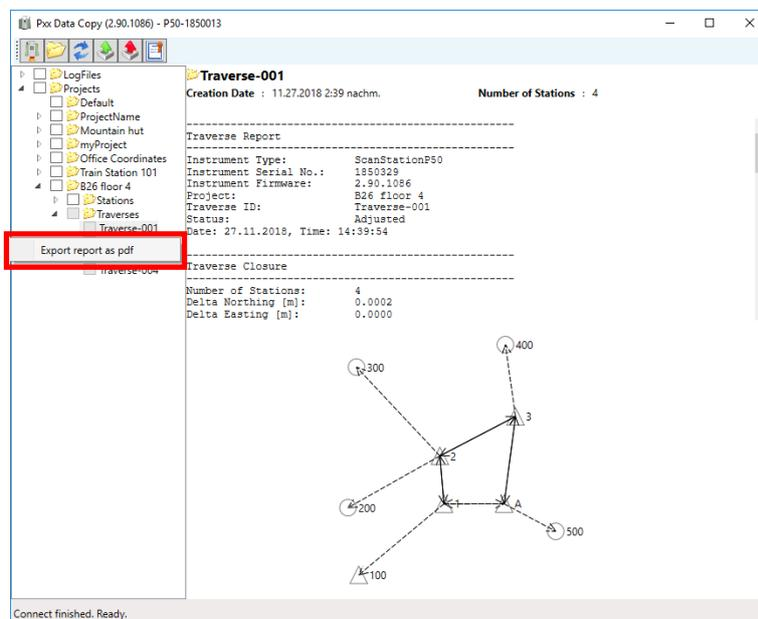

Figure 9: Export traverse report menu.
To export Traverse report right click on a traverse in *Content Frame (1)* and click *Export report as pdf* in right click export menu (Figure 9).